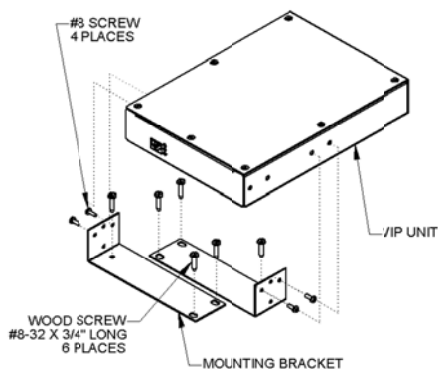

Figure 1. Wall Mount
**Wall:** Using the template on last page of this document, mark the location of the bracket screw holes on the wall. Drill 5/64" pilot holes, 3/4" deep, at each screw location and use the wood screws provided to attach the brackets to the wall. For surfaces other than wood, use hardware appropriate for the surface (not included). With the brackets securely attached to the wall, attach the VIP-814A to the brackets using the included hardware. Figure 1 illustrates the bracket assembly.